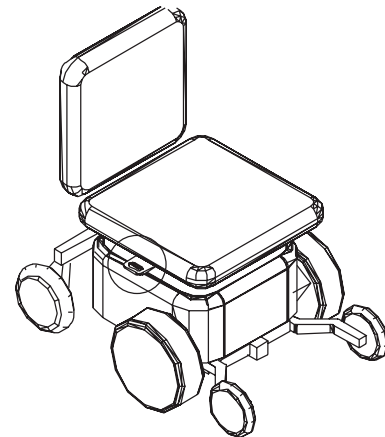

Figure 4-58
6. Replace the seat on the chair. **See Figure 4-58.**